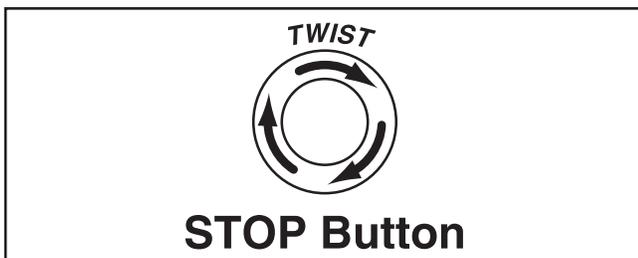

Figure 13. Resetting the EMERGENCY STOP Button.
- Twist EMERGENCY STOP Button clockwise until it springs out (see **Figure 13**).